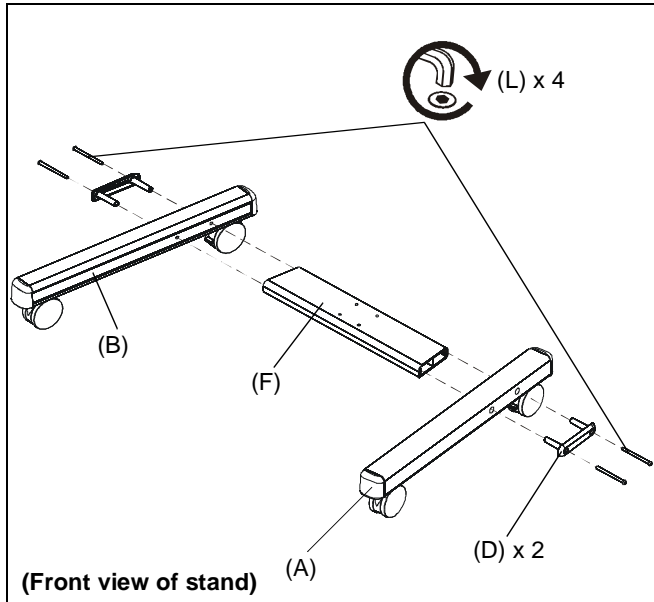

Figure 1
1. Assemble two legs (A) and (B) to the stand cross bracket (F) using two 5/16-18 x 4-1/4" button head cap screws (L) through one end cap (D) per leg. (See Figure 1)